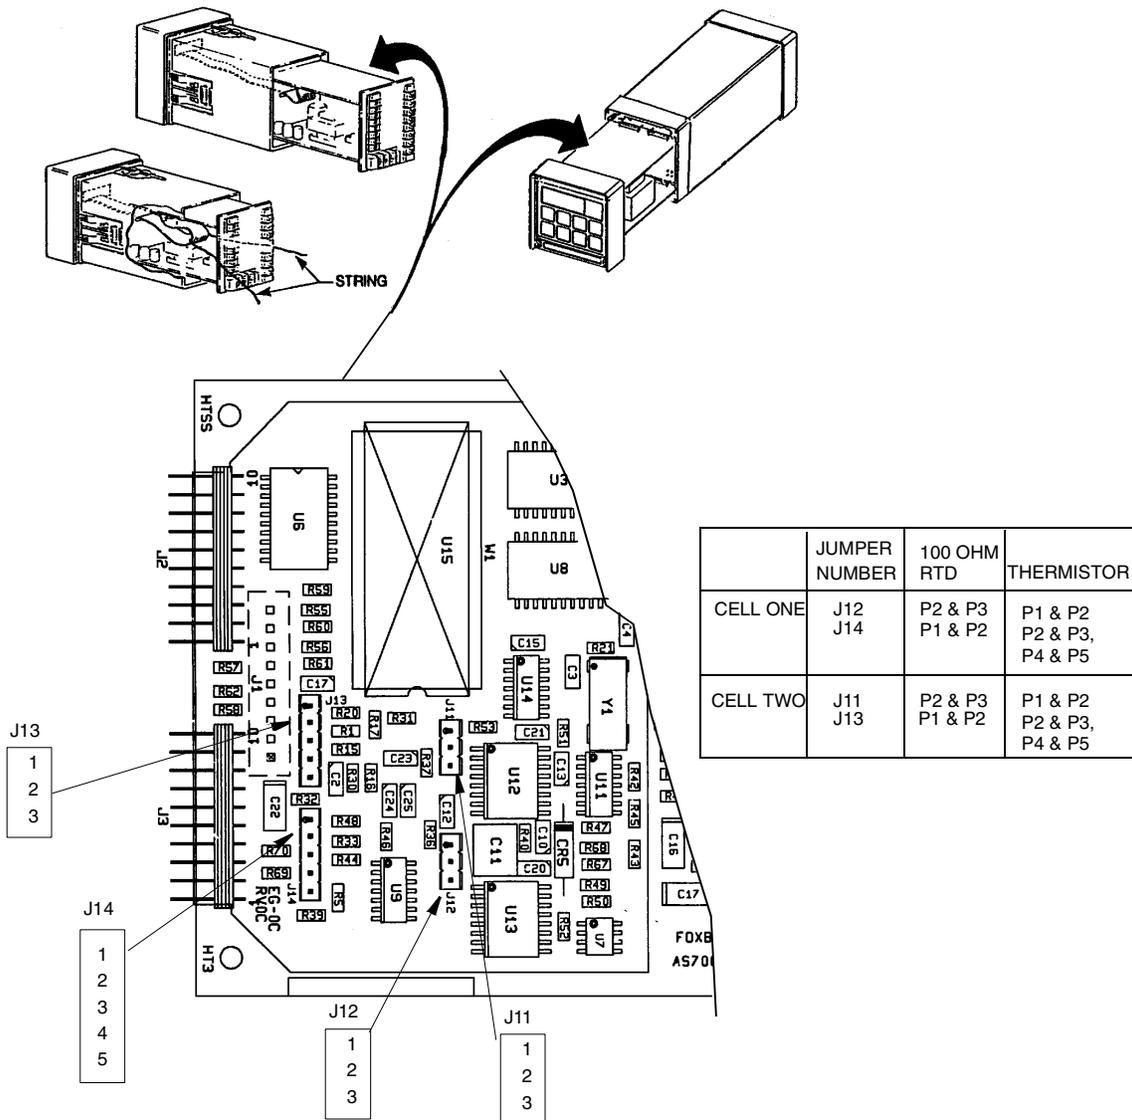

Figure 18. Jumpers for Temperature Compensation
4. Refer to Figure 18 on page 51 to identify jumper locations.
**CAUTION:** On the plastic version, a string must be rigged through the loop in the ribbon cable such that when the board assembly is slid into the housing, the string/ribbon cable may be pulled back simultaneously, thus preventing damage to the cable. See Figure 18 on page 51.